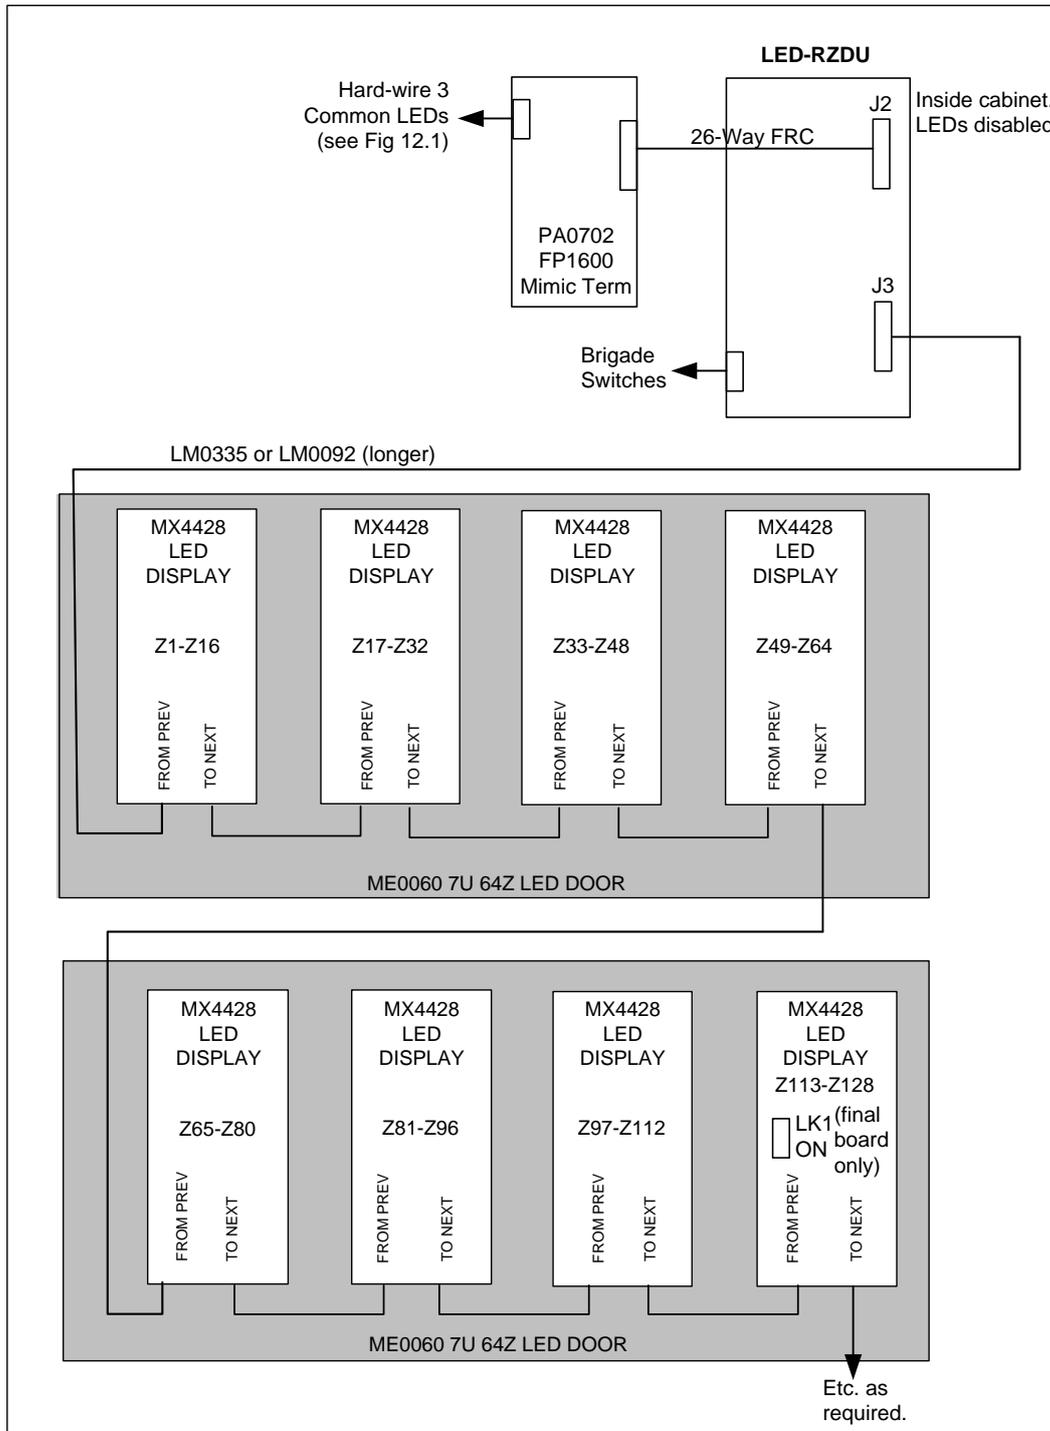

Fig 11.2 – Front Service Rackmount Display with MX4428 LED Display Boards
- 7U rackmount 64-zone display doors (ME0060) with MX4428 format 16-zone LED display boards (FP0475) to display zone Alarm (and optionally) Fault, and Isolate on 3 LEDs (Figure 11.2).